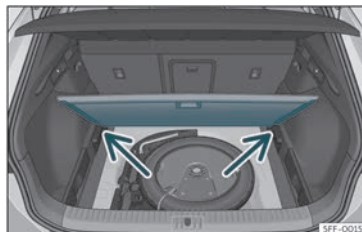

Fig. 114 Variable luggage compartment floor: inclined position.
- Rest the floor on its housings >>> **Fig. 114** (arrows).